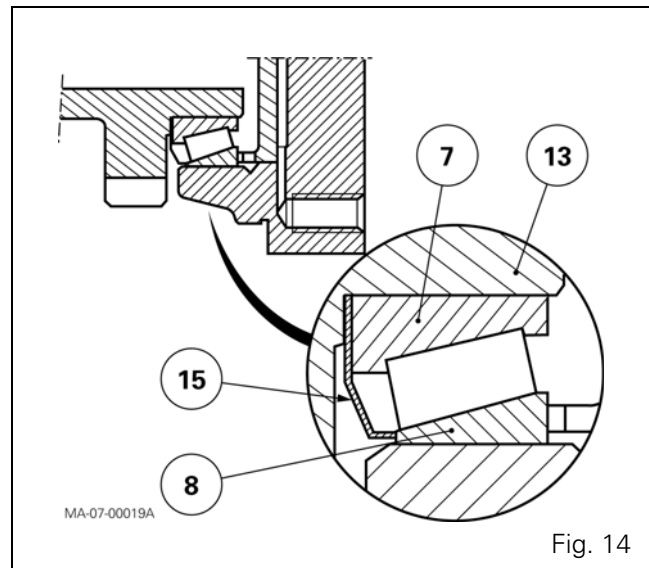

Fig. 14
Note: For correct lubrication of the ring (30), a deflector (15) is fitted between the pinion (13) and the bearing cone (7), in contact with the bearing cup (8) (Fig. 14).